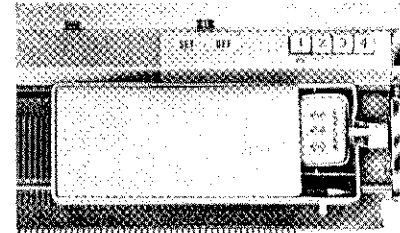

Fig. 32
a. The left end of the parts box has to be placed on the number "60" of the needle. (See Fig.32)